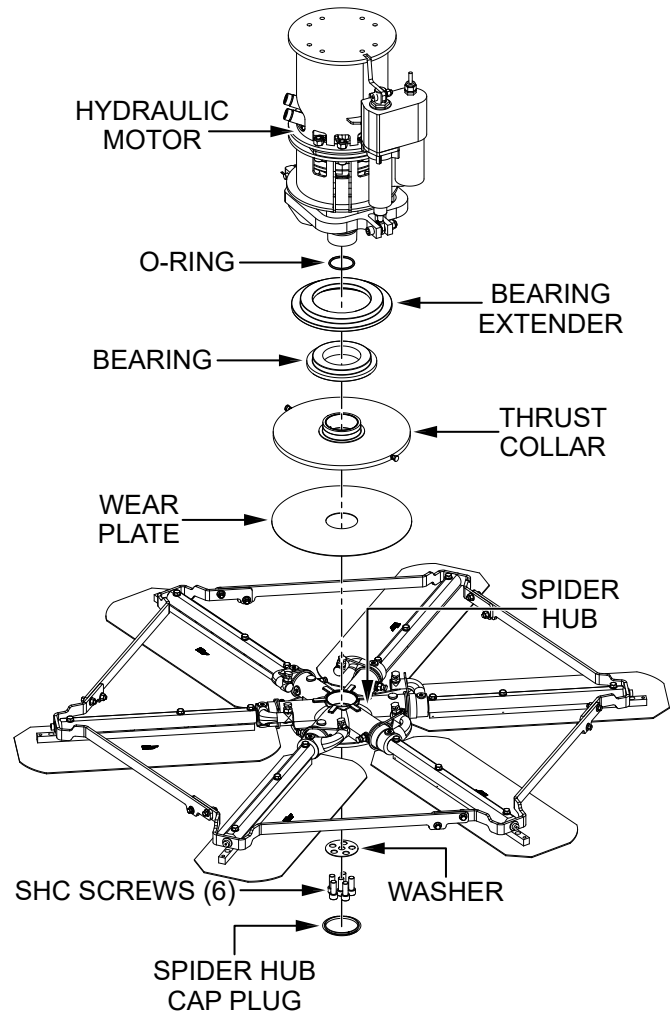

Figure 45. Rotor Assembly Components
5. Remove the **spider hub cap plug** (Figure 45) and set it aside.
6. Remove and set aside the **six socket-head screws** securing the **spider hub** to the hydraulic motor shaft (Figure 45).